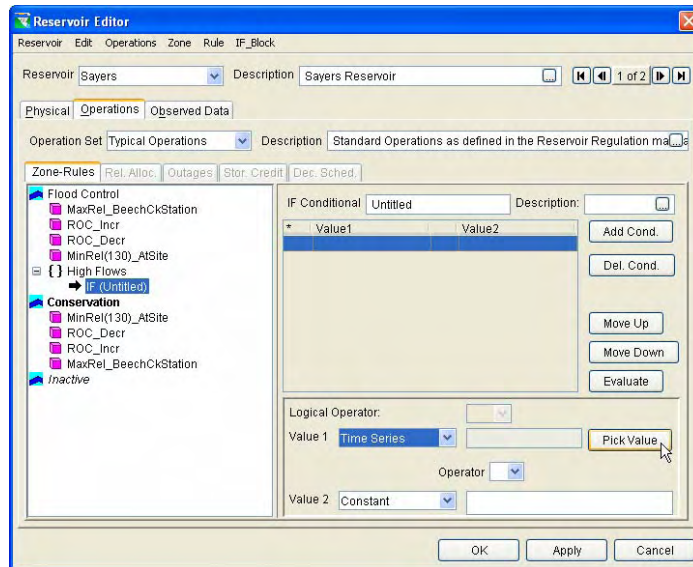

Figure 11.64 Conditional Test Editor – Pick Value
- Depending on which type of value is chosen, a related option will appear to the right of the dropdown list. **Constant** will allow for a constant value to be entered. **Date/Time** will allow for a date and time to be entered. **Current Time Step** needs no further entry. **Seasonal** allows for a date entry. **Time Series** results in a **Pick Value** button which leads to a subsequent editor. For this example, after selecting the **Time Series** value type, press the **Pick Value** button (Figure 11.64).